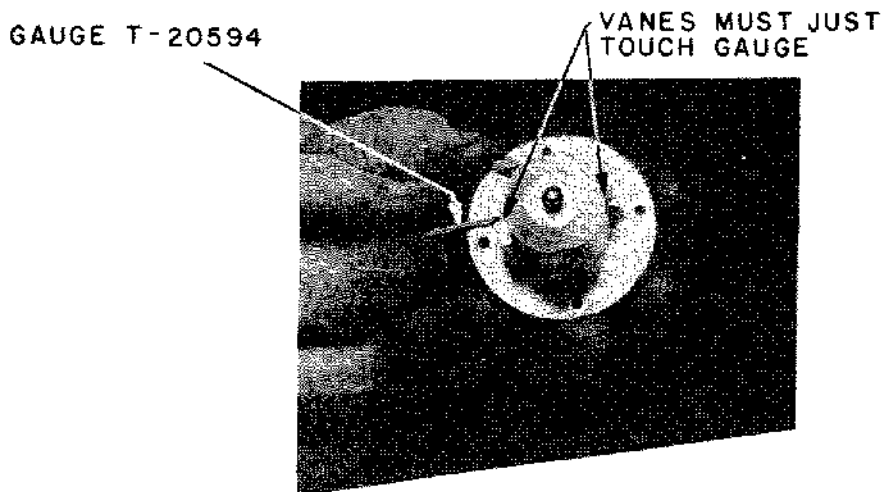

FIGURE 36 CHECKING THE VANES OF THE PENDULUM ASSEMBLY
1. Insert gauge T-20594 through any one of the four elongated holes with the recessed side facing the bevelled edge of the vane. The end of the gauge will protrude through the elongated hole on the opposite side and pass the bevelled edge of the vane on that side. The bevelled edge of both the vanes should just touch the gauge surfaces. Bend, if necessary, to make this so. Repeat test for the other pair of vanes. (See Fig. 36.)